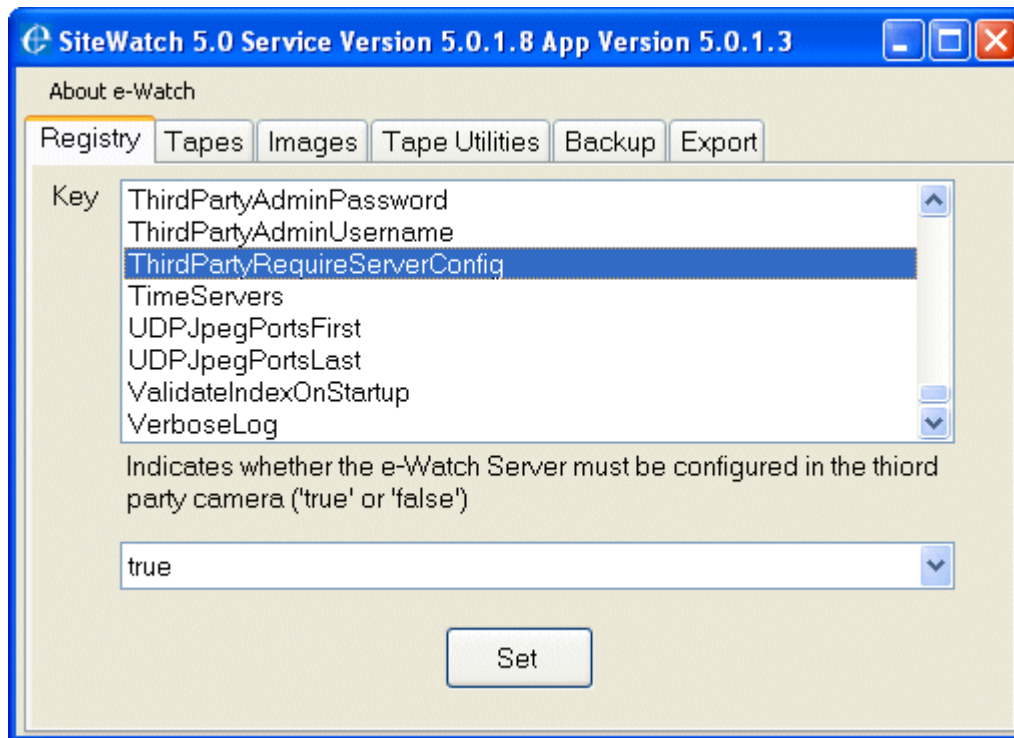

Figure 4-2. *ThirdPartyRequireServerConfig Registry Value*
Perform these steps on the e-Watch Server console. See Figure 4-2.
- Figure 4-2. ThirdPartyRequireServerConfig Registry Value 10